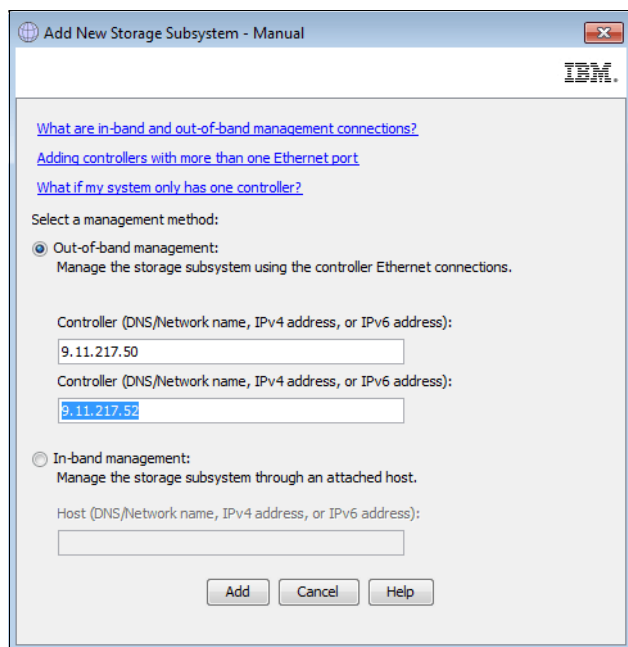

Figure 2-7 IBM System Storage DS Storage Manager 10 Out-of-band Management
8. As shown in Figure 2-7, enter the IP address for your two DS5000 controllers for out-of-band management.